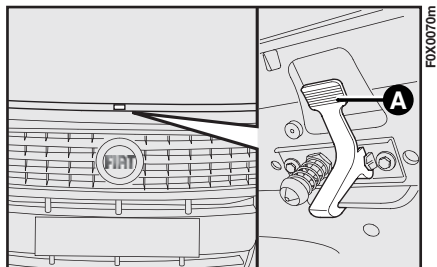

fig. 89
- 2) Use lever A-fig. 89 to raise the bonnet, holding it centrally and releasing the bonnet stay A-fig. 90 from its locking device at the same time.